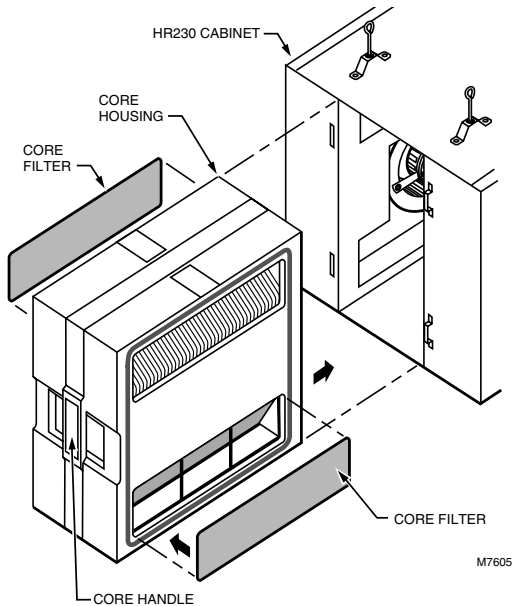

Fig. 4. Remove core from ventilator.
- Using the handle, pull the core straight out approximately halfway. While supporting the core at the bottom with one hand, pull the core completely out. See Fig. 4.
Do not lift the core by the top or bottom flange to prevent core damage. Carry the core by the handle. See Fig. 4.